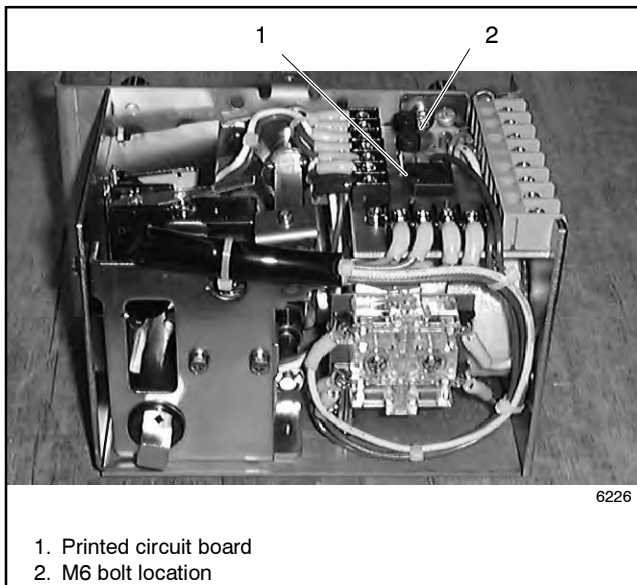
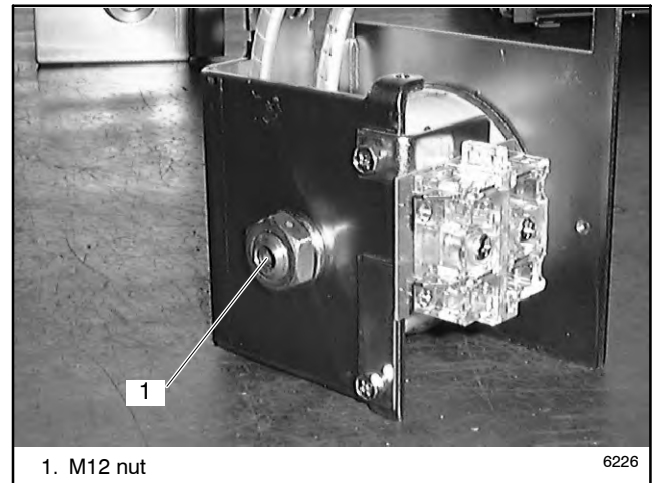

Figure 7-15 Printed Circuit Board and M6 Bolt (for closing coil)
Figure 7-16 Closing Coil with Frame, 100-400 Amp Models
3. Remove the printed circuit board. See Figure 7-15 and Section 7.2.3.
4. Loosen the M6 bolt and remove the frame with the coil. See Figure 7-15 and Figure 7-16.
5. Loosen the M12 nut and replace the closing coil. See Figure 7-16.